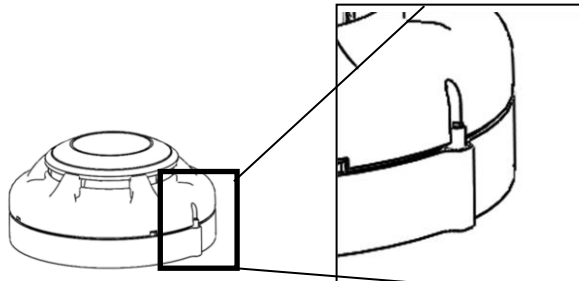

Figure 20: Position of the locking screw to lock the detector
3. Install the detector into the mounting base, making sure the wiring does not obstruct mounting of the detector head. Push the detector into the mounting base while turning it clockwise until the detector locks into place. Use a small hexagonal wrench to set the tamper resist feature (if required), see Figure 20.
The VDOT-UB series, VDOT-S6 Base, and VDOT-STB series of smoke/heat detector mounting bases have a tamper-resist feature that works in conjunction with the detectors. When this feature is enabled, the detectors cannot be removed from the base without the use of a small hexagonal wrench. To avoid unauthorized removal of the detector, turn the locking screw in the mounting base counterclockwise until the screw extends out about 4 mm (3/16 in.) from the rim of the base, as shown in Figure 20.